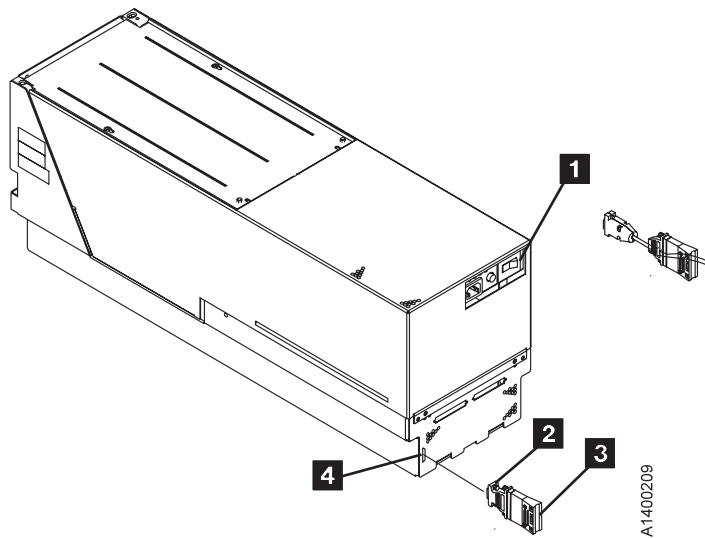

Figure 273. Installing Wrap Tool (Rear View)
- ___ 1. See Figure 273. Set the power switch **1** to the OFF position.